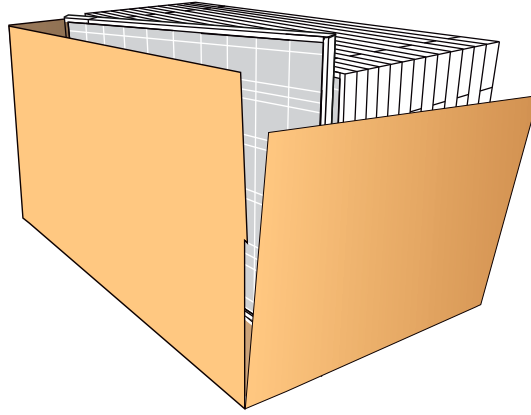

Figure 8
- ◀ Support should be placed on the back of the assembly once it has been removed from the box to prevent the modules from collapsing (Figure 8)